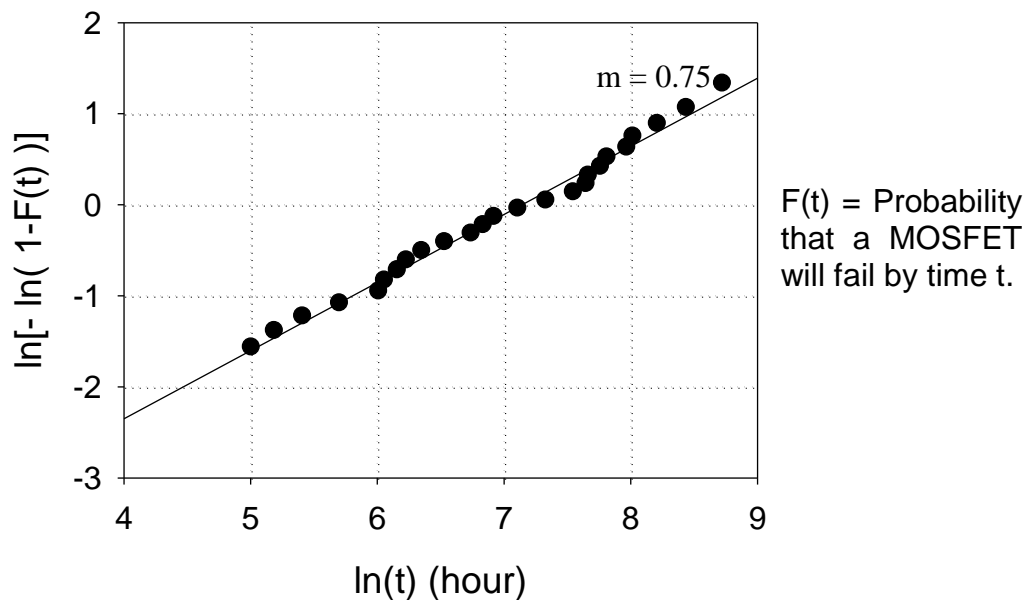

Figure 4.1
- b. A reliability test on a group of MOSFETs at 70°C has produced the failure data summarised in figure 4.1.
- i) Estimate the percentage of devices that failed after 1000 hours and the median time. (4)
- ii) The failure data can be fitted using a straight line with gradient of $m = 0.75$, as shown in Figure 4.1. Calculate the failure rate at 150 hours, 750 hours, 1000 hours and 3000 hours. (6)
- iii) Based on your calculation in part (ii) sketch and label the failure rate. (2)
- iv) Suggest a possible failure mechanism for the photodiodes that failed before the median time and provide a characterisation technique to analyse the mechanism suggested. (4)